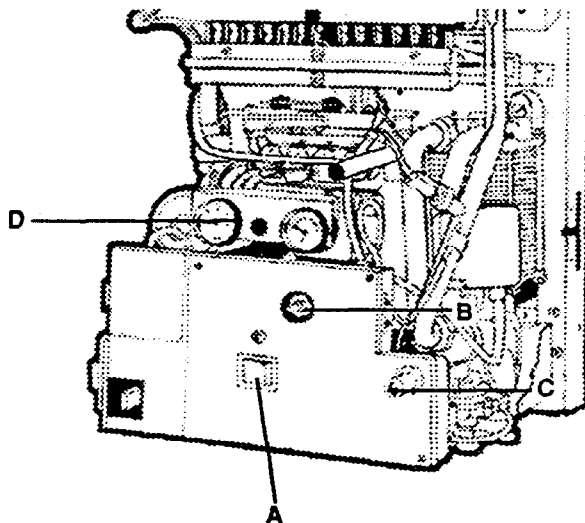
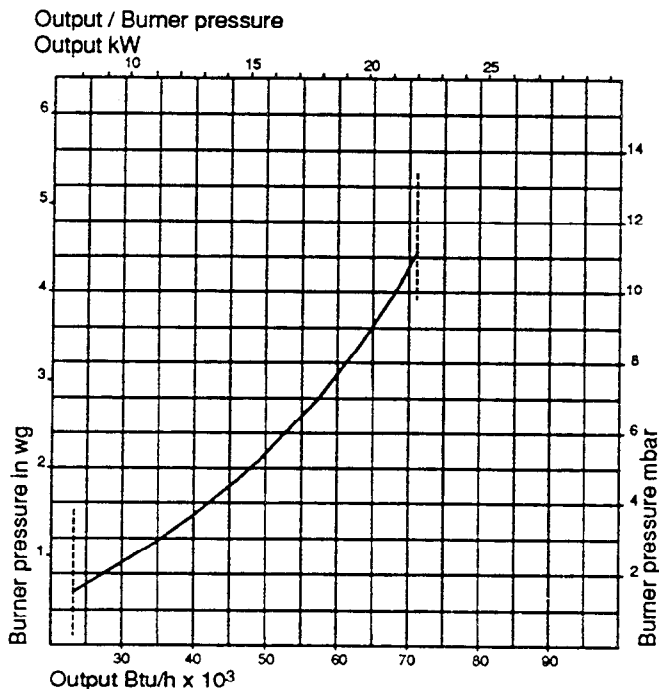

Fig. 35
Fig. 37
- 8) Manually check pump is free to rotate. Remove ca (fig. 35 D).
- Insert small electrical screwdriver (3 mm blade), locate in slot in pump shaft, rotate clockwise to ensure that pump is free replace cap (D).
- 9) Switch to **HOT WATER + CENTRAL HEATING** on selector switch (A) (fig. 35) switch position (II).
- 11) Isolate water supply and drain boiler by disconnecting fill system and opening the drain valve (F). This is incorporated in the safety valve and is achieved by screwing down the head until the valve lifts. Open all low level drain cocks.
- 12) Remove filter in the return isolating valve (C) and inspect for any installation debris, see section (7.6) to clean and replace.
- 3) With yhe left hand, push in the pilot button (fig. 35 D) with the right hand push the ignitor button (fig. 35 C) When the pilot light is established, hold the pilot button pushed in for 30 seconds.
- 3) Temporarily locate the temperature control 'knob - and turn to maximum setting (fig. 35 B).
- 4) Switch to **HOT WATER + CENTRAL HEATING** (II) on the selector switch (fig. 35 A). Ensure that any auxillary controls are in the demand position the boiler will now fire automatically.
- 1) Switch boiler to the off (O) central position, see section 6.3 (fig. 35).
- 2) Remove the pressure test point screw - (B) and connect a suitable pressure gauge.
- 3) Remove the hexagonal cap from gas rate adjuster exposing the adjusting screw (C).
- 4) Switch the boiler to hot water and central heating (II) and check that any fitted external controls are calling for heat.
- 5) Adjust. Setting pressures are given in graph figs. 37 and 38. The pressure will be reduced by clockwise movement of screw, increased by anticlockwise movement. Now select hot water only, adjust temperature knob, see fig. 4 (25), to minimum and open the largest volume draw-off tap. The gas pressure should now be the maximum as indicated in Technical Data.
- 6) Switch boiler off (O). Remove pressure gauge and replace test point screw and gas rate adjuster hexagon cap. Check for gas soundness around screw.